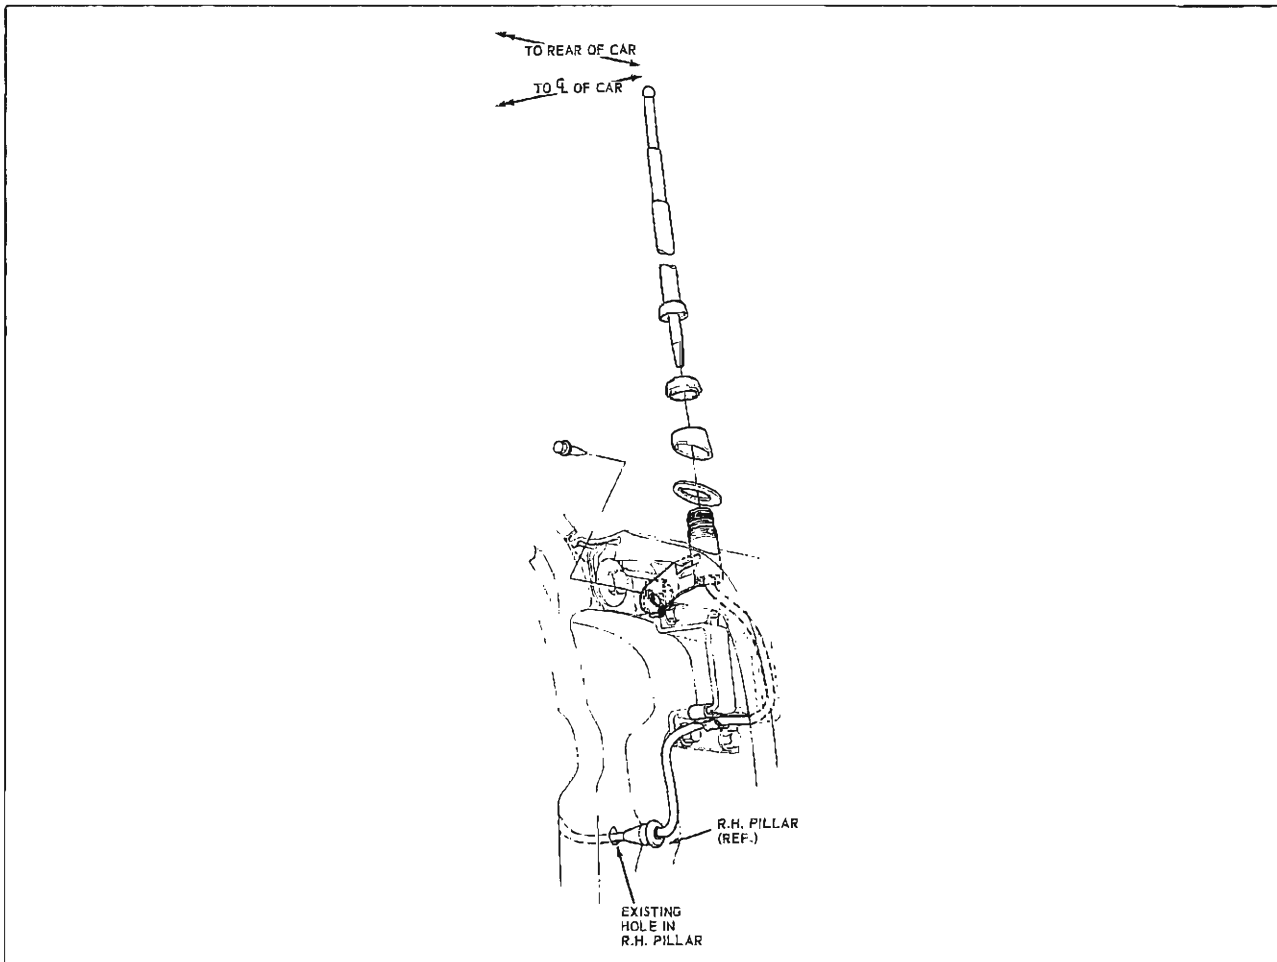

Fig. 12-11 Reference Illustration — Tempest Antenna
The manual antenna is mounted on the right front fender, in approximately a vertical position (Fig. 12-11).
2. Disconnect lead-in plug from radio receiver (Fig. 12-11).